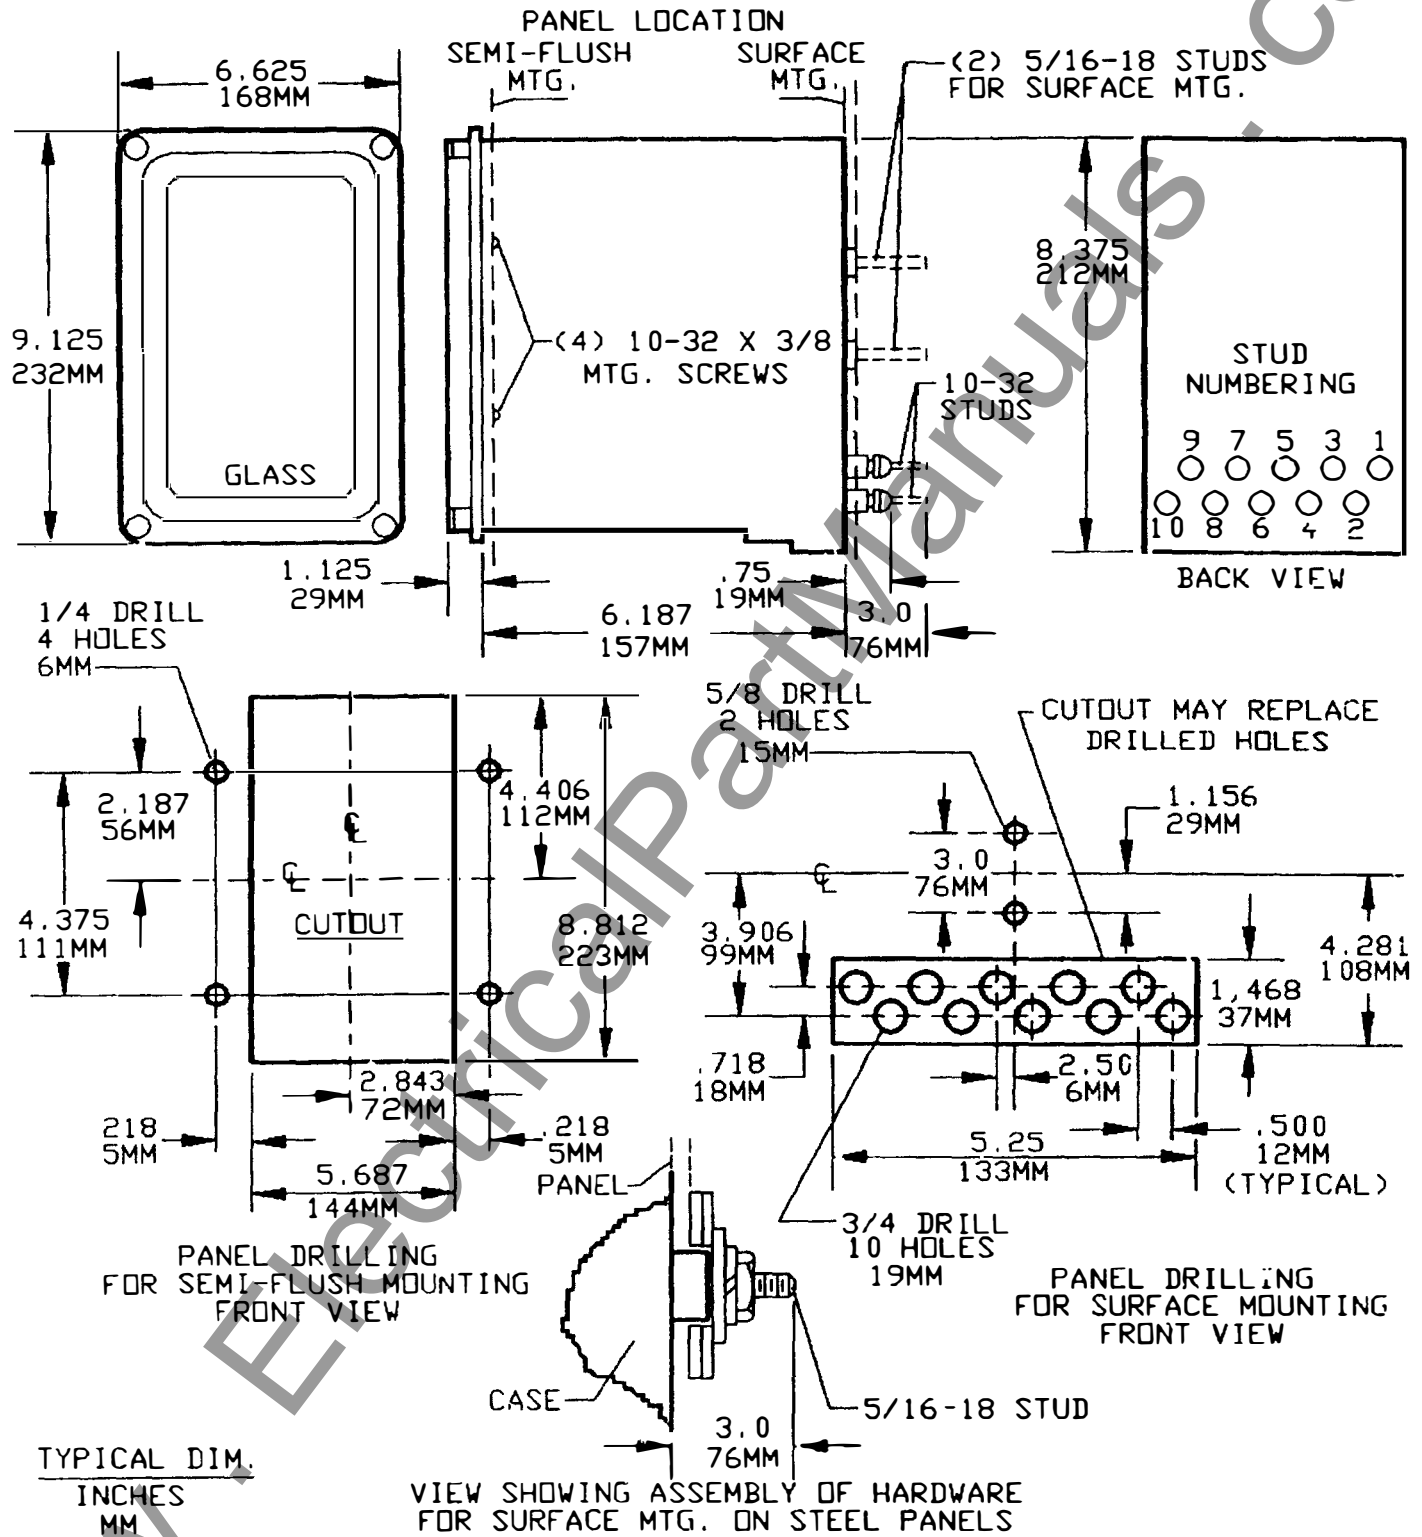

Fig. 20 (K-6209271 (8)) Outline and Panel Drilling Dimensions for Relay Types IAC Relays
* The relay should be mounted on a vertical surface. The outline and panel diagram is shown in Fig. 20.